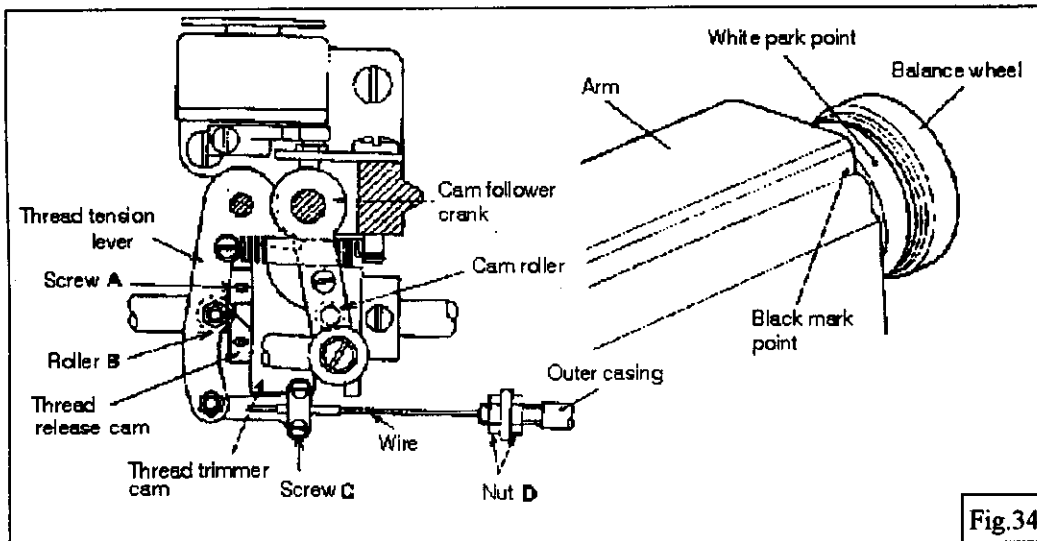

Fig.34
24) Adjustment of needle threads tension release assembly (Fig.34)